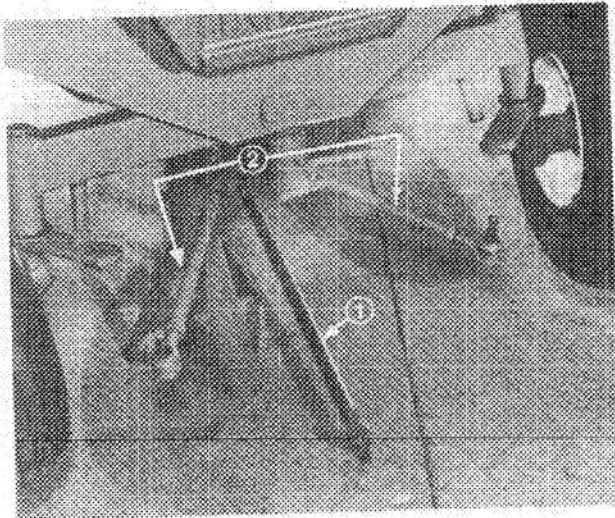

Figure 45
1. Remove cotter pin and slotted nut from tie rod end connecting steering tube to steering plate. Separate tie rod end from steering plate bracket (Fig. 45).
2. Remove cotter pins and slotted nuts from tie rod ends connecting tie rods to wheel spindle brackets. Separate tie rod ends from both spindle brackets (Fig. 45).